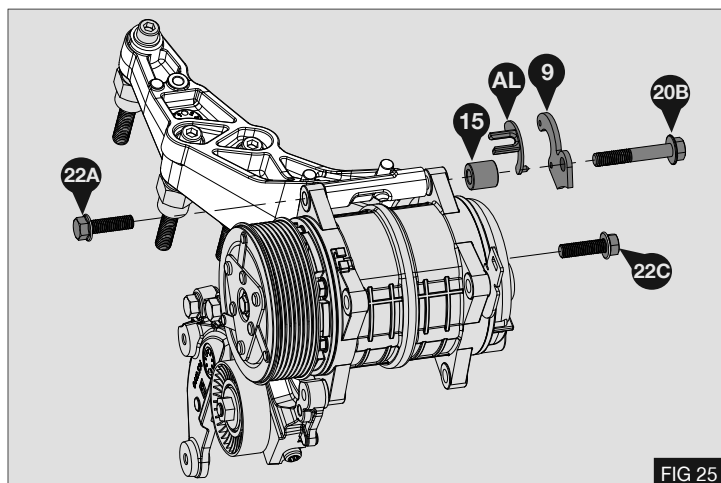

FIG 25
4. Secure the compressor using 2x M10x35 (22) bolts and 1x bolt M10x60 (20).
5. Attach fuel valve holder (AI) to bracket (9) and use spacer (15)
6. Attach the fuel return valve (AE) to its holder and torque 3x M10 bolts to 58 Nm / 43lb. ft. in the following sequence: - Fig 25